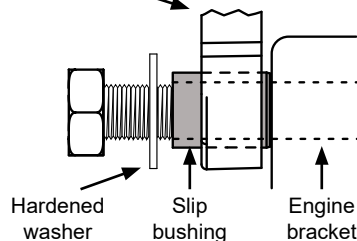

Figure 1: N1601 Alternator Installation
2. Install pulley with furnished flat washer and lock nut. Torque pulley nut to 163 Nm/120 lb. ft. See Figure 1.